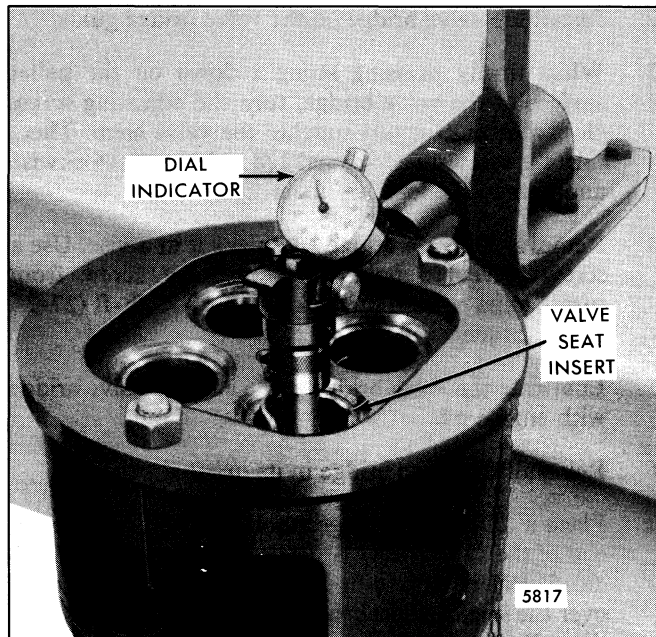

Fig. 17 - Checking Relative Concentricity of Valve Seat Insert with Relation to Valve Guide
5. After the grinding has been completed, clean the valve seat insert thoroughly with fuel oil and dry it with compressed air. Set the dial indicator J 8165-2 in position as shown in Fig. 17 and rotate it to determine